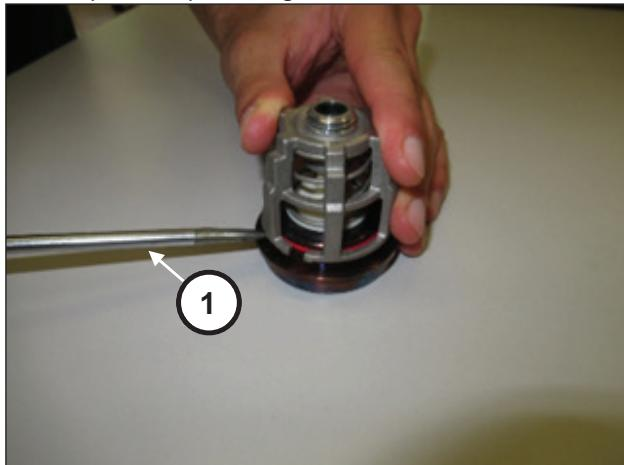

Fig. 142
Disassemble the suction and outlet valve units by levering with simple tools (pos. ①, Fig. 142).